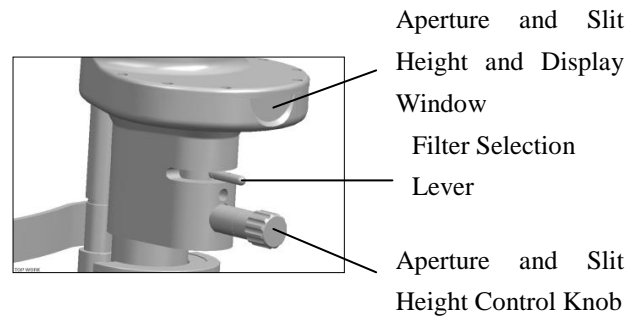

Figure 3.4.2
2. Change the aperture diameter and slit height: Rotate the aperture selection knob to get 7 different sizes of circular spot and 1 continuous change aperture. The diameter of the circular spot is 14, 10, 5, 3, 2, 1, 0.2. Continuously changing the aperture can continuously change the length of the slit from 1 to 14 mm. The aperture data is displayed from the pupil reading window (see Figure 3.4.2).